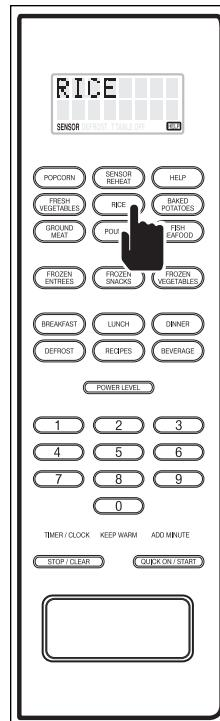

Figure 3-60.
1. Press the desired Sensor Cooking Mode key. For example, press the RICE key and "RICE - PRESS START" flashes on the display (See Figure 3-60).